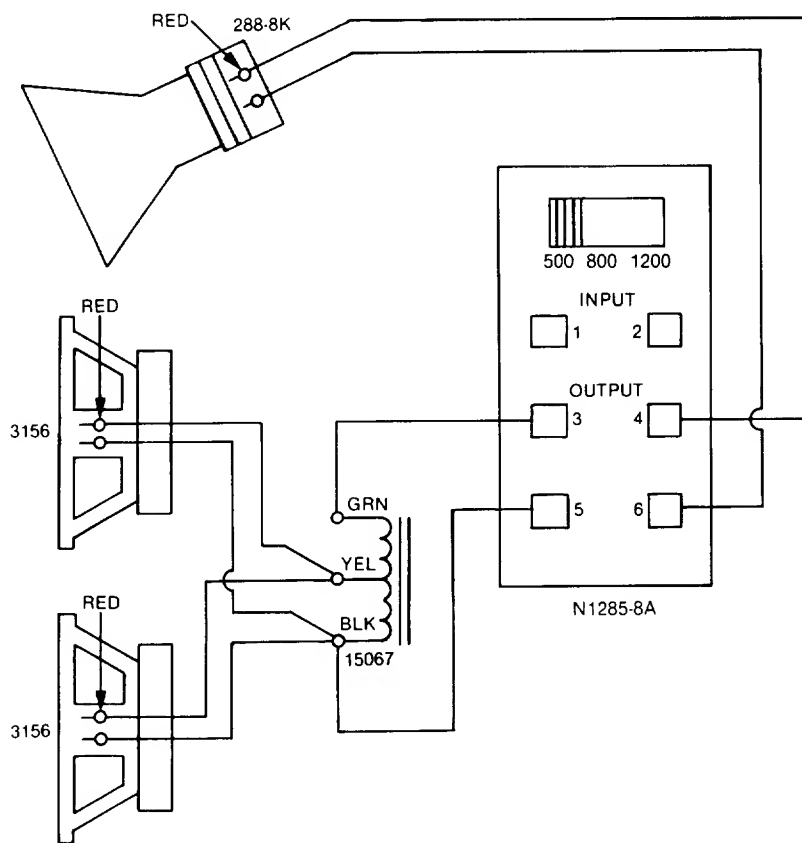

Figure 3. Wiring Diagram with 15067 Autoformer
14. If the amplifier to be used cannot safely drive a 5-ohm load, wire the system as shown in Figure 3, using a 15067 autoformer.